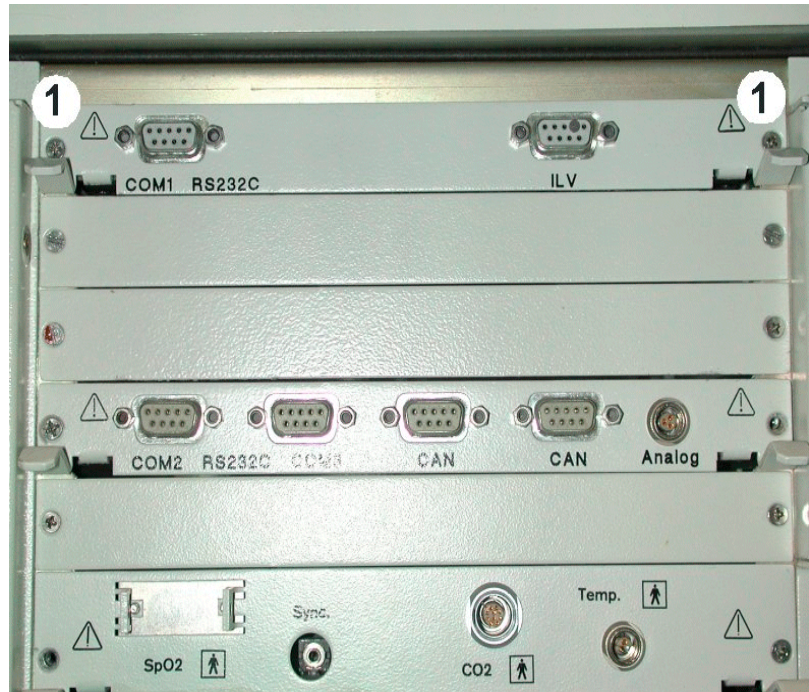

Figure 11 Rear view of the machine
10. Secure the CPU 68332 PCB to the machine using the screws (Figure 11/1).